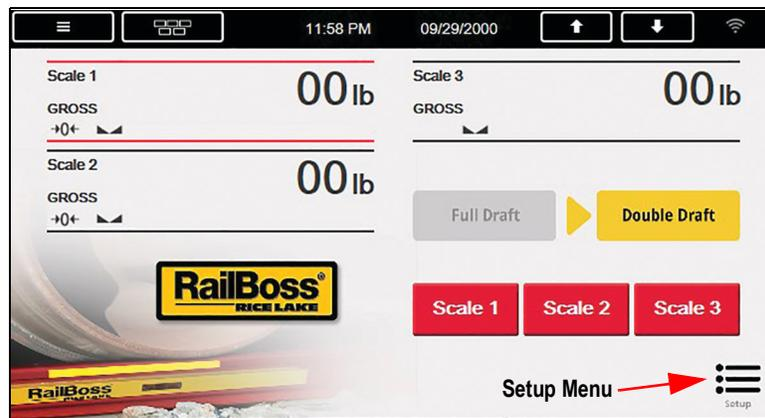

Figure 2-1. Double-Draft Initial Display
Figure 2-1 displays when unit is powered up or when it exits the configuration or setup menus. The scale icons displayed are dependant on the number of scale being used.
4. Use the display to select the scale being used (Figure 2-1) to weigh the rail truck. The live weight for the current scale displays. If the weight is above the threshold weight, **Capture** displays. The selected scale is default until **Return to Weigh Screen** is pressed. See Section 2.1.2 on page 5.